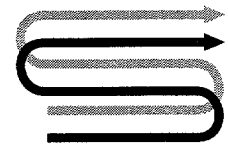

Figure 4-7
- When preparing a seedbed, go over the same path twice in the first row, then overlap one-half the tiller width on the rest of the passes (see Figure 4-7). When finished in one direction, make a second pass at a right angle as shown in Figure 4-8. Overlap each pass for best results (in very hard ground it may take three or four passes to thoroughly pulverize the soil).